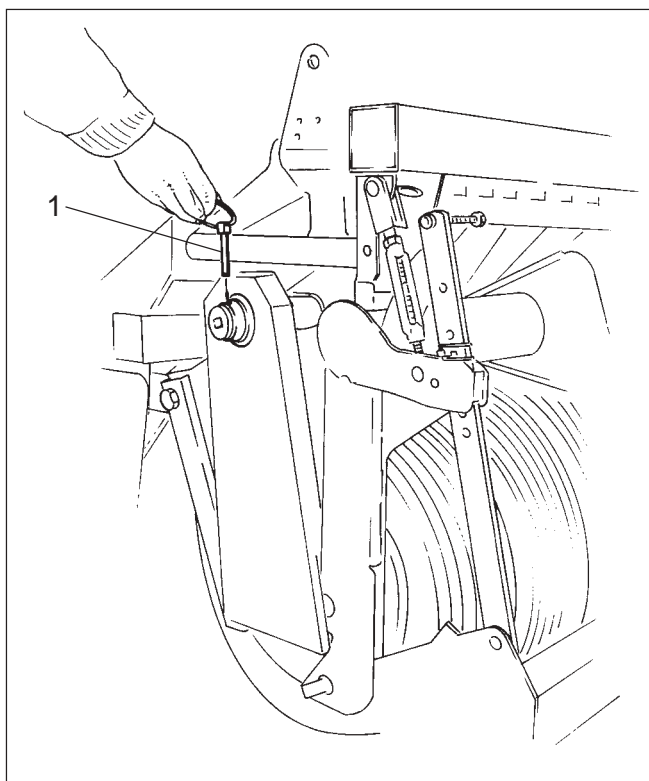

Fig. 21.7
To be able to calibrate the pack top seed drill stationary pull out the clip pin (Fig. 21.7/1) off the intermediate drive of the tyre packer.
- Insert clip pin (Fig. 21.7/1) into the intermediate drive of the tyre packer roller